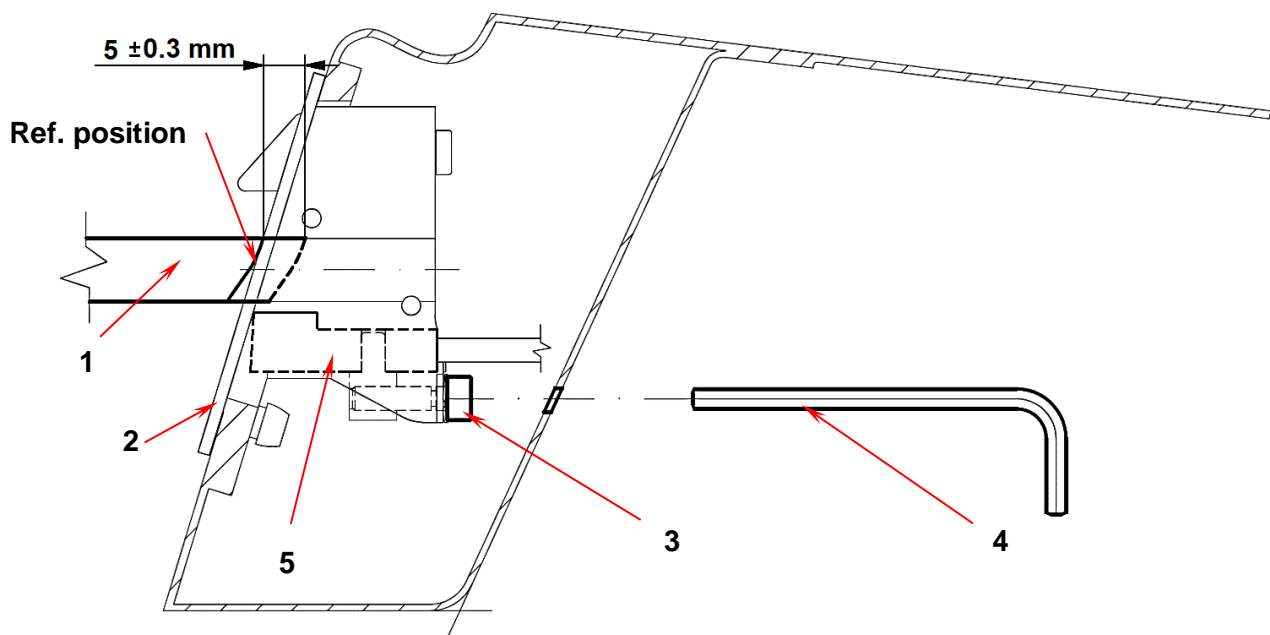

Fig. 7
- Set the main latch (1, Fig. 7) to the reference position i. e. closely to the entry hole of canopy lock socket (2).
- Plug-in the main latch (1)  $5 \pm 0.3$  mm deep into the canopy lock socket (2) and fix it in this position.
- By means of adjusting screw (3) and Allen key 2.5 mm (4) adjust the sensor position (5) to trigger the check lamp in this position of main latch (1).